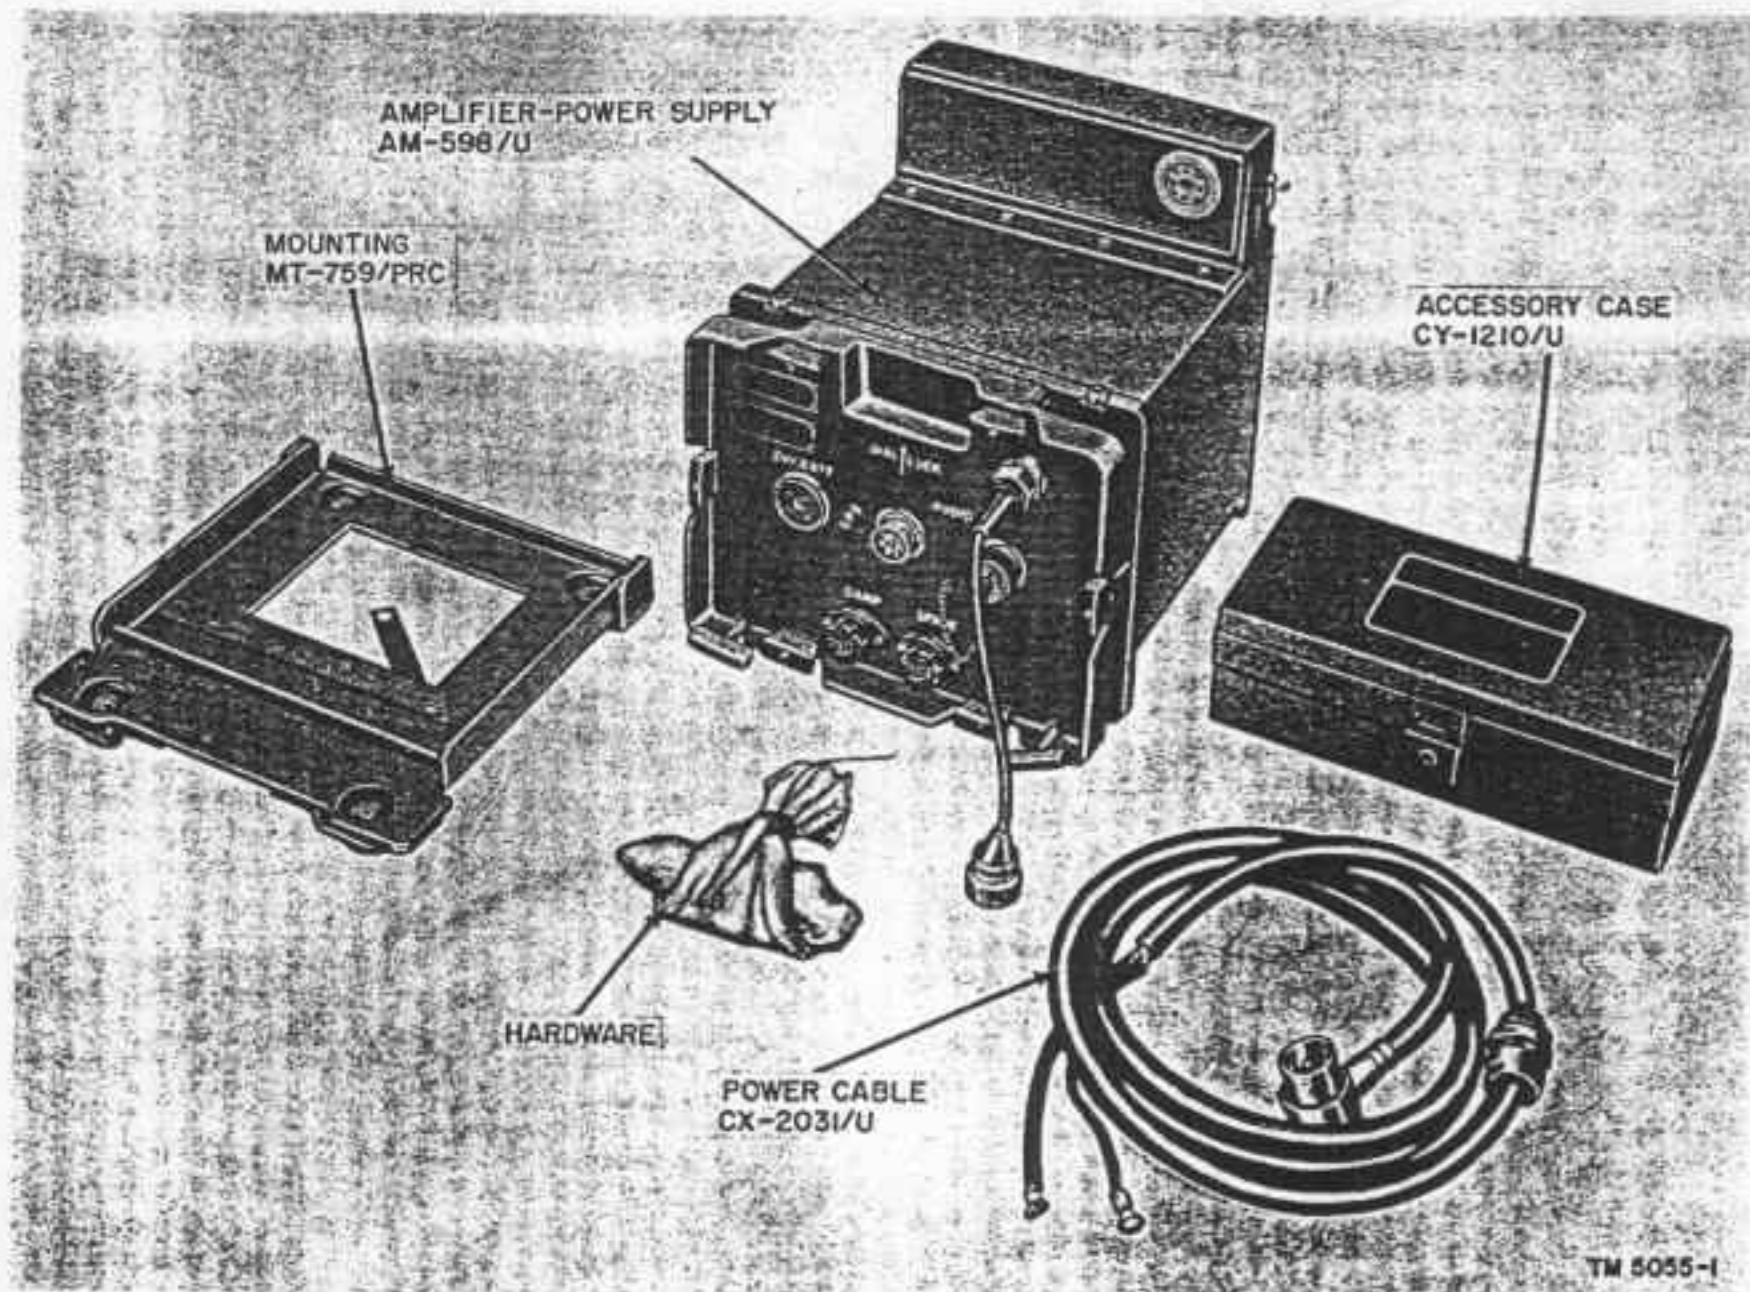

Figure 1. Amplifier-power supply AM-598/U with components.
a. This manual contains information covering the installation, operation, maintenance, and repair of Amplifier-Power Supply AM-598/U (fig. 1), and an appendix covering a list of references.
Amplifier-Power Supply AM-598/U (fig. 1) is a vibrator-type regulated power supply and audio amplifier that adapts Radio Sets AN/PRC-8, -9, and -10 for vehicular use. Detailed information on the radio sets is published in TM 11-612 and TM 11-4065. The power supply operates from a 24-volt direct-current (dc) source and replaces Battery BA-279/U in vehicular installations. The unit supplies the complete power requirements of the radio set, and, in addition, the audio amplifier which it contains facilitates the use of a headset or loudspeaker.